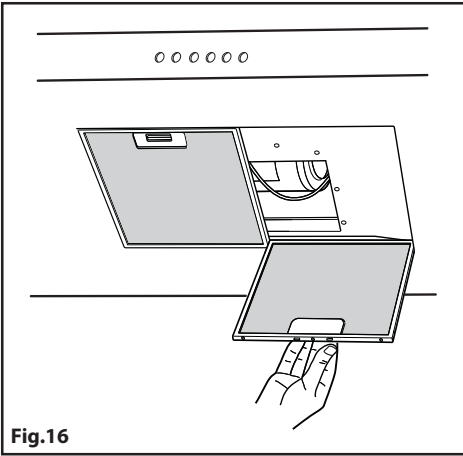

Fig.16
Before proceeding with the assembly operations, remove the anti-grease filter(s) (**Fig.16**) so that the unit is easier to handle.
-If the cooker hood is supplied with a lower chimney piece that must be fixed to the hood body with screws, remove the anti-grease filters from the hood by acting on the relevant handles (**Fig.16**).